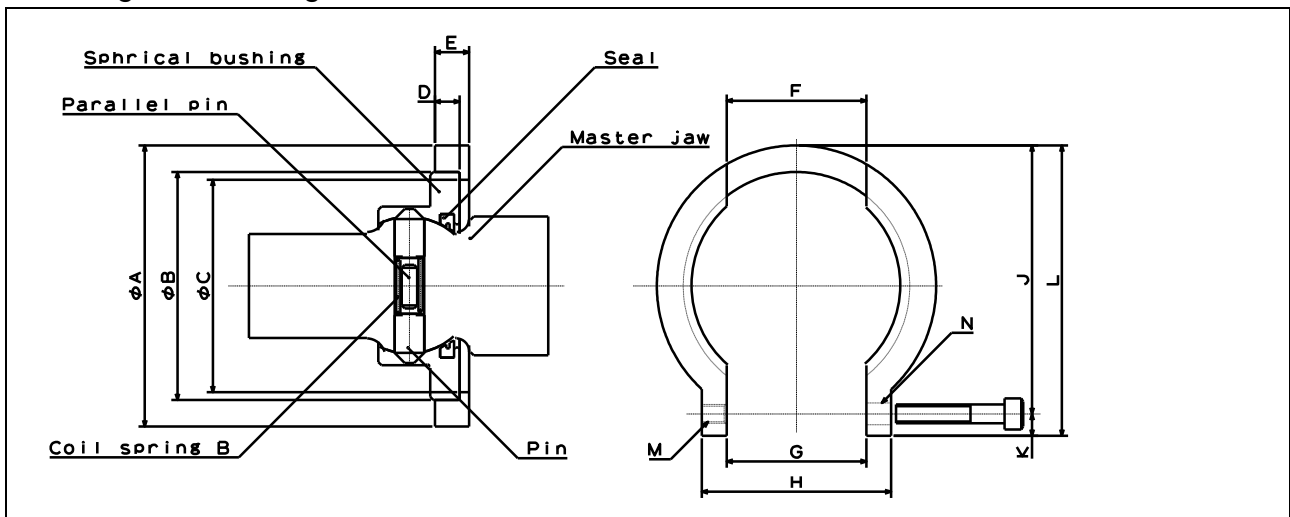

Fig.6-1 Spherical bushing assembling jig
- Because the attaching jig for the spherical bushing which looks Fig.6-1 and sealing compound 1212 (Threebond co.,ltd) are need for work, prepare beforehand.
- ① Remove the old sealing compound, moisture, oil stain and others. Then apply the new sealing compound 1212 (Three bond co.,ltd.) to the separate surface of spherical bushing.
- ② Incorporate a parallel pin [35], coil spring B [17] and pin [16] into the master jaw [9] before sealing [18] the spherical bushings [10] and set the spherical bushings with the master jaw placed between both bushings. At this time, check the seal is thoroughly inserted into seal flute. Also, with the lower spherical bushing gripped by vise, tighten the vise until the half-separated rings of spherical bushing are corresponded each other completely. Also, repeat the tightening and loosening of vise two or three times, thereby eliminating the deviation of bushing.
- ③ With the spherical bushing [10] chucked with the vise, and set the attaching jig before tightening the bolts, As a result, the spherical bushing remains set on the master jaw[3] even if it is removed from the vise.
- ④ Set the plunger[5] in which the bearing[13]is incorporated to the body[1]. Pay attention to arrangement.